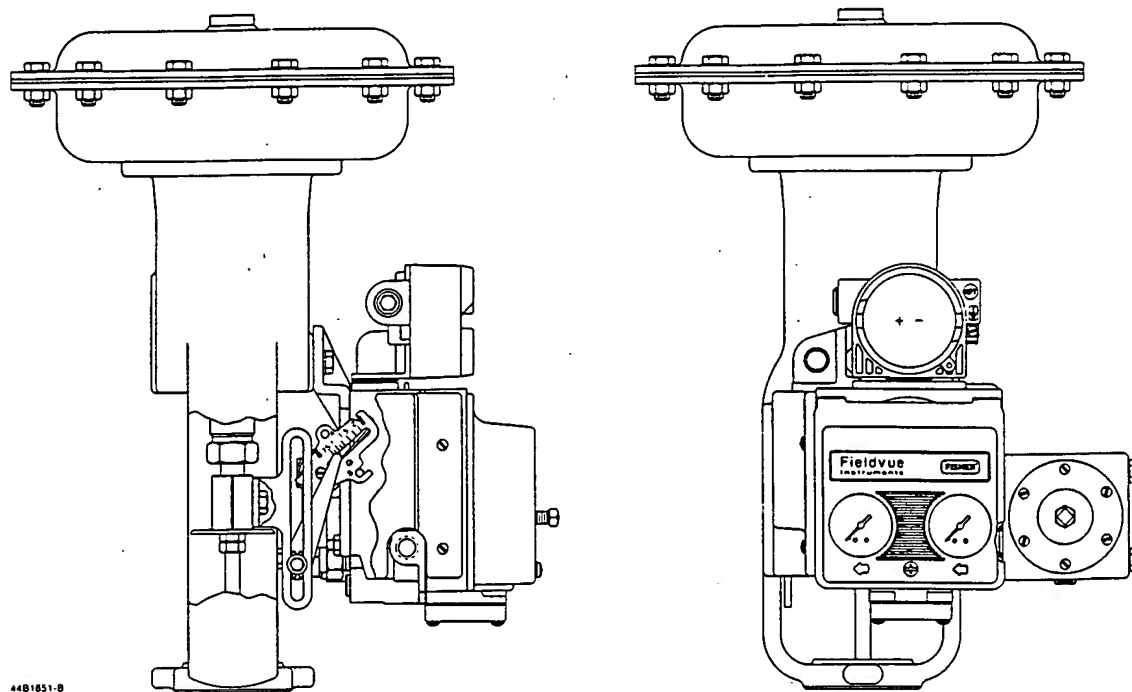

Figure 10. Integrally Mounted Filter Regulator
For integral mounting to the digital valve controller, O-ring (key 60) must be lubricated and in place on the digital valve controller. Proceed to attach the Type 67AFR filter regulator to the side of the digital valve controller. This is the standard method of mounting the filter regulator. Refer to figure 10.